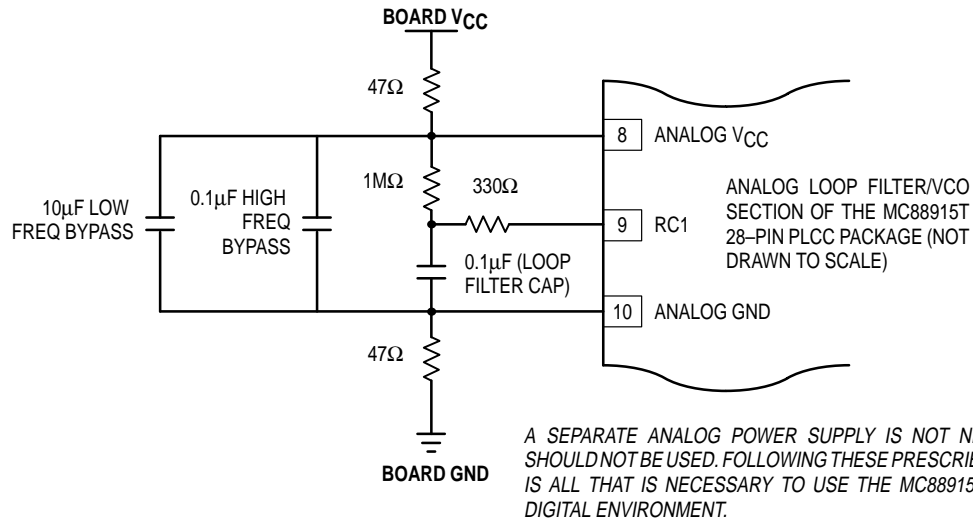

Figure 6. Recommended Loop Filter and Analog Isolation Scheme for the MC88915T
1. Figure 6 shows a loop filter and analog isolation scheme which will be effective in most applications. The following guidelines should be followed to ensure stable and jitter-free operation:
purpose of the bypass filtering scheme shown in Figure 6 is to give the 88915T additional protection from the power supply and ground plane transients that can occur in a high frequency, high speed digital system.
2. In addition to the bypass capacitors used in the analog filter of Figure 6, there should be a 0.1μF bypass capacitor between each of the other (digital) four VCC pins and the board ground plane. This will reduce output switching noise caused by the 88915T outputs, in addition to reducing potential for noise in the 'analog' section of the chip. These bypass capacitors should also be tied as close to the 88915T package as possible.